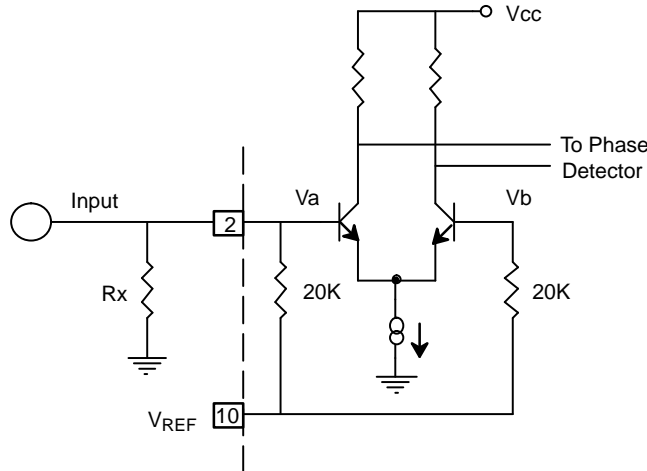

Figure 4. Desensitizing Input Stage
- f) The input to the XR-2211A may sometimes be too sensitive to noise conditions on the input line. *Figure 4.* illustrates a method of de-sensitizing the XR-2211A from such noisy line conditions by the use of a resistor, R_x , connected from pin 2 to ground. The value of R_x is chosen by the equation and the desired minimum signal threshold level.